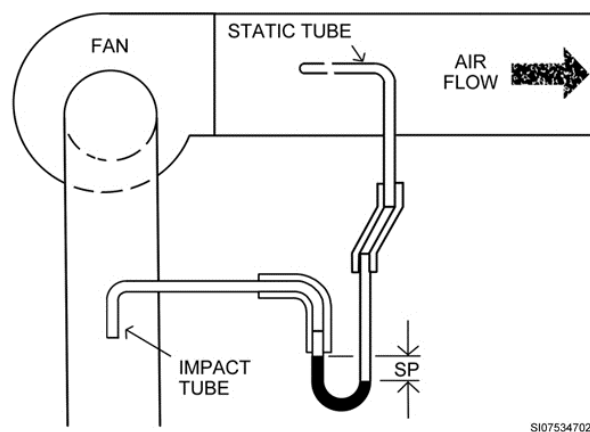

Figure 2-8. Fan static pressure.
Fan static pressure (SP), which relates to the system pressure, is often confusing. Fan static pressure (fig. 2-8) is the fan total pressure less the fan velocity pressure. It can be calculated by subtracting the total pressure at the fan inlet from the static pressure at the fan outlet:
In figure 2-8, the tube in the discharge is a *static* tube and is measuring the discharge (or outlet) static pressure. This is a positive static pressure since it is on the discharge and is greater than the total pressure on the suction. Look at the manometer, the static discharge is pushing down on the column of liquid because it is the greater pressure. At the fan return-air connection, you measure total pressure at the fan inlet and not the static pressure.